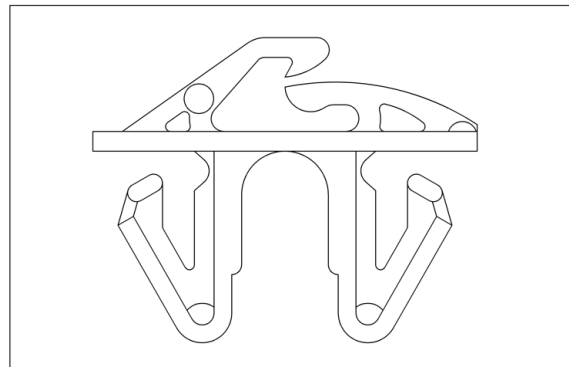

Fig 16. Inner Clip.
2. **Inner clip:** These make up the remainder of the clips. (Fig. 16)